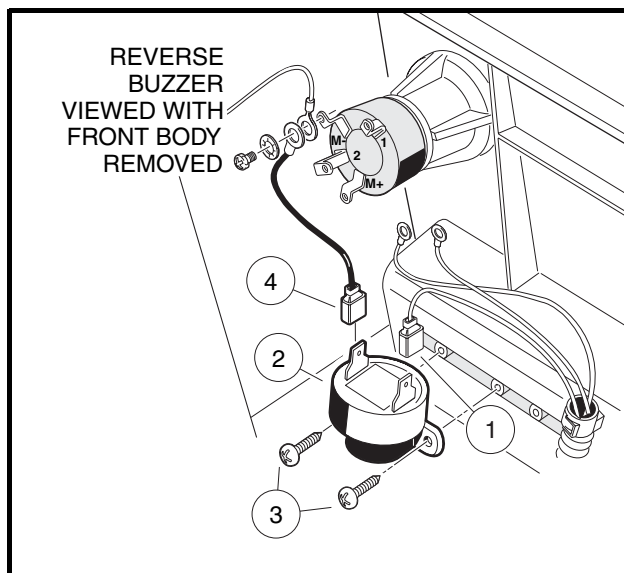

Figure 12-20 Reverse Buzzer
3. Disconnect the wires from the reverse warning buzzer (2). Do not allow wires to touch (**Figure 12-20, Page 12-19**).
4. Remove the mounting screws (3) securing the buzzer to the center dash.
1. Install the screws (3) through the buzzer bracket tabs and tighten to 3.5 in-lb (0.40 N·m) (**Figure 12-20, Page 12-19**).
2. Connect the black wire (4) from the key switch to the negative (–) terminal on the buzzer.
3. Connect the red/white wire (1) from the wire harness to the positive (+) terminal on the buzzer.